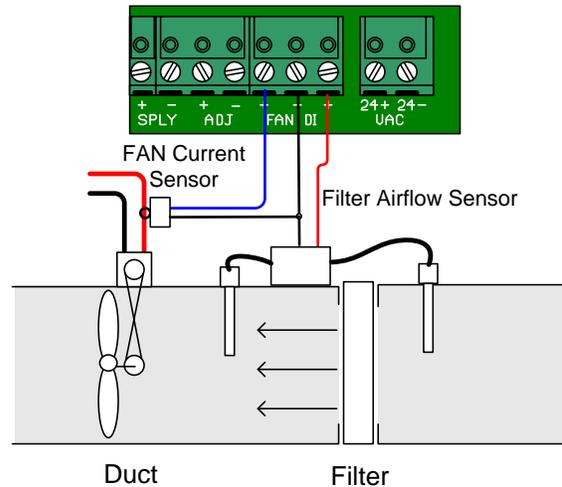

Figure 6: Connecting Fan & Filter Input
Step 1: Connect the FAN input to fan motor current transducer (Figure 6).
Step 2: Connect the Filter airflow Sensor or AC fail contacts to the DI input (Figure 6).